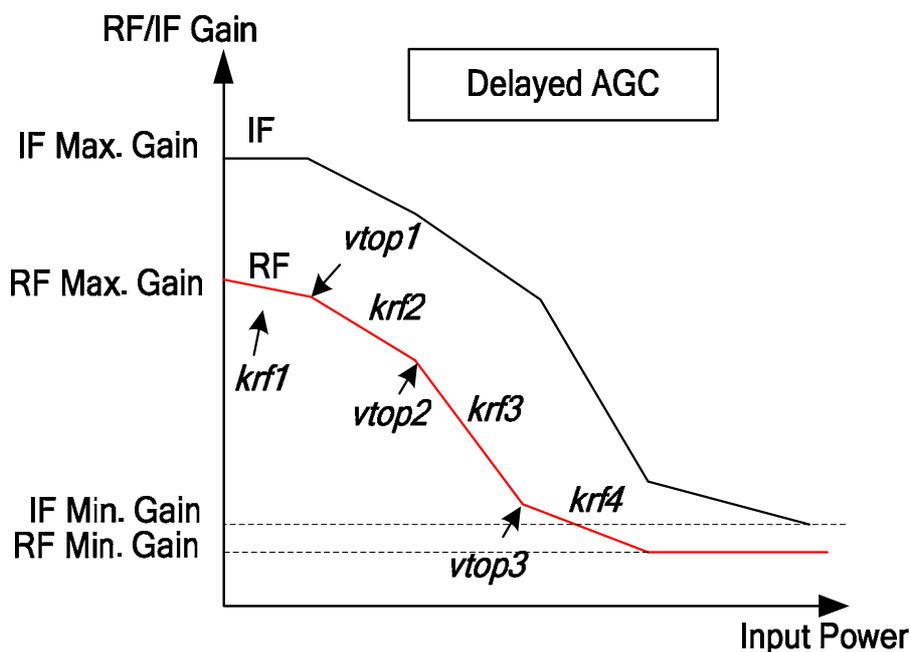

Figure 4. Delayed AGC
In the RTL2832U, the RF_AGC and IF_AGC pins control the Radio Frequency (RF) and Intermediate Frequency (IF) VGA gain of the tuner. In some applications, the RTL2832U only controls IF VGA, and the tuner controls RF VGA. In some tuners, only the RF AGC is needed. The RTL2832U uses delayed AGC to control RF and IF AGC. Gain distribution for RF and IF VGA is adjusted by registers ‘*vtop*’ and ‘*krf*’. The delayed AGC method is shown in Figure 4. RTL2832U has three *vtop* and four *krf* register values to be programmed by user.